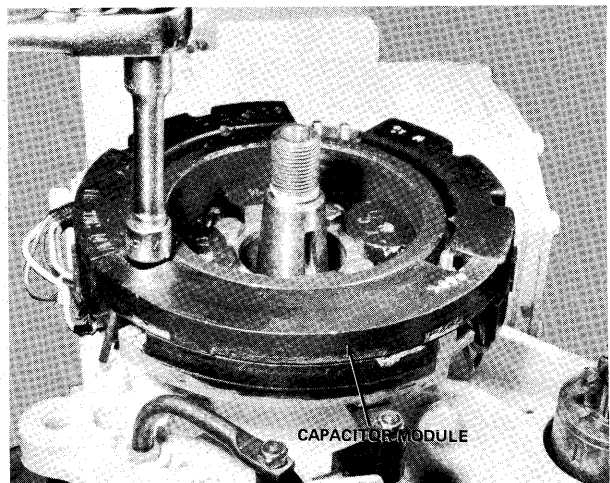

Figure 19 - Removing Capacitor Module
- D. Remove two (2) screws and lockwashers securing capacitor leads to C-D module.
- E. Remove two (2) studs securing capacitor module to bearing cage and remove capacitor from same. See figure 19.